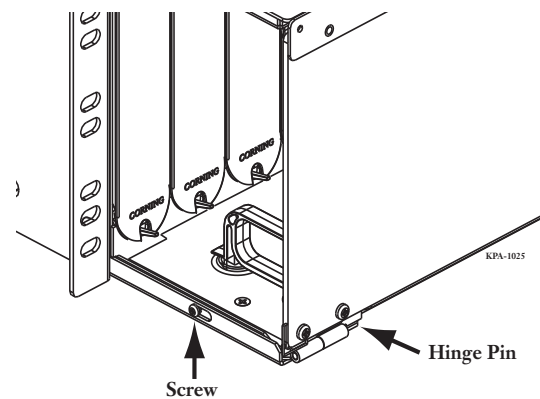

Figure 5 — Hinge Pin on Front Door
- Step 2:** Slide the screw toward the rear of the housing (Figure 5).